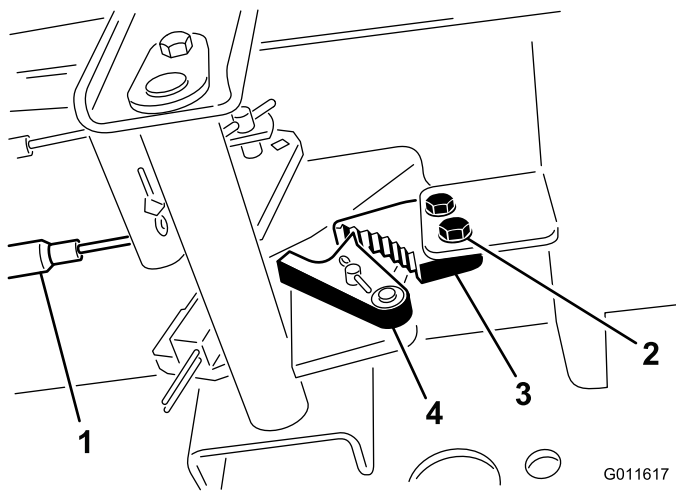

Figure 76
1. Loosen the 2 screws securing the parking brake pawl to the frame (Figure 76).
2. Press the parking brake pedal forward until the brake detent completely engages on the brake pawl (Figure 76).